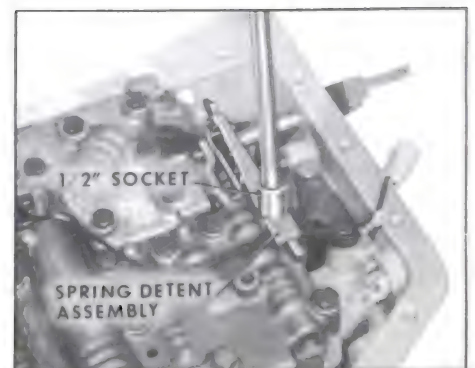

Figure 5-114
5. Remove spring detent assembly bolt with a 1/2" socket. Remove spring detent assembly from valve body. See Figure 5-114.